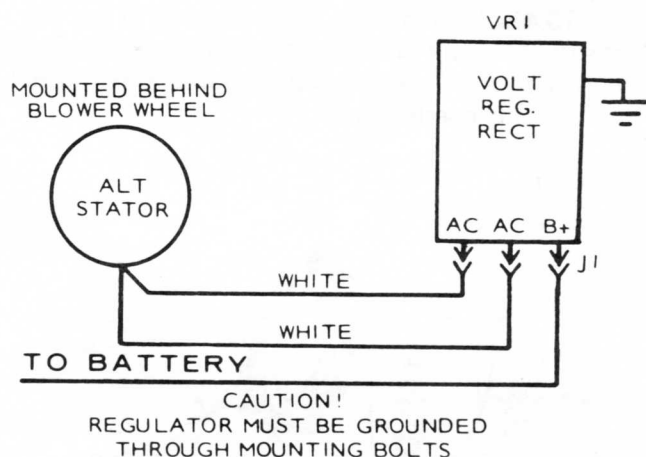

FIGURE 44. FLYWHEEL ALTERNATOR SYSTEM
This unit is equipped with a permanent magnet flywheel alternator and solid-state voltage regulator-rectifier (output control). See Figure 44. As with all solid-state electrical units, precautions are necessary when servicing. Observe the following.
1. Check the B+ to ground voltage using a DC voltmeter. See Figure 44 for wiring diagram.